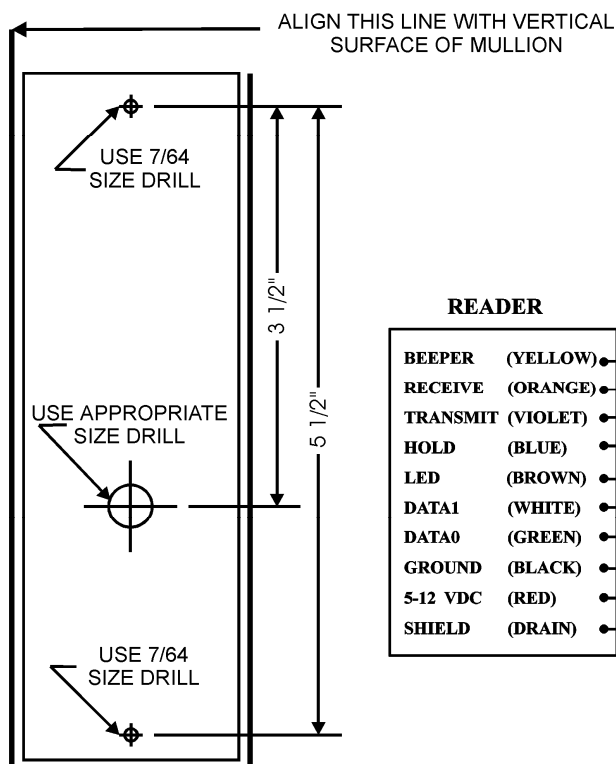

FIGURE 1: Holes Location
1. Position the reader (item b in the Parts List) at the desired location. Observe ADA height requirements. Drill two 7/64 (0.109)-inch holes for the reader's screws, and one clearance hole for the cable (see Figure 1).